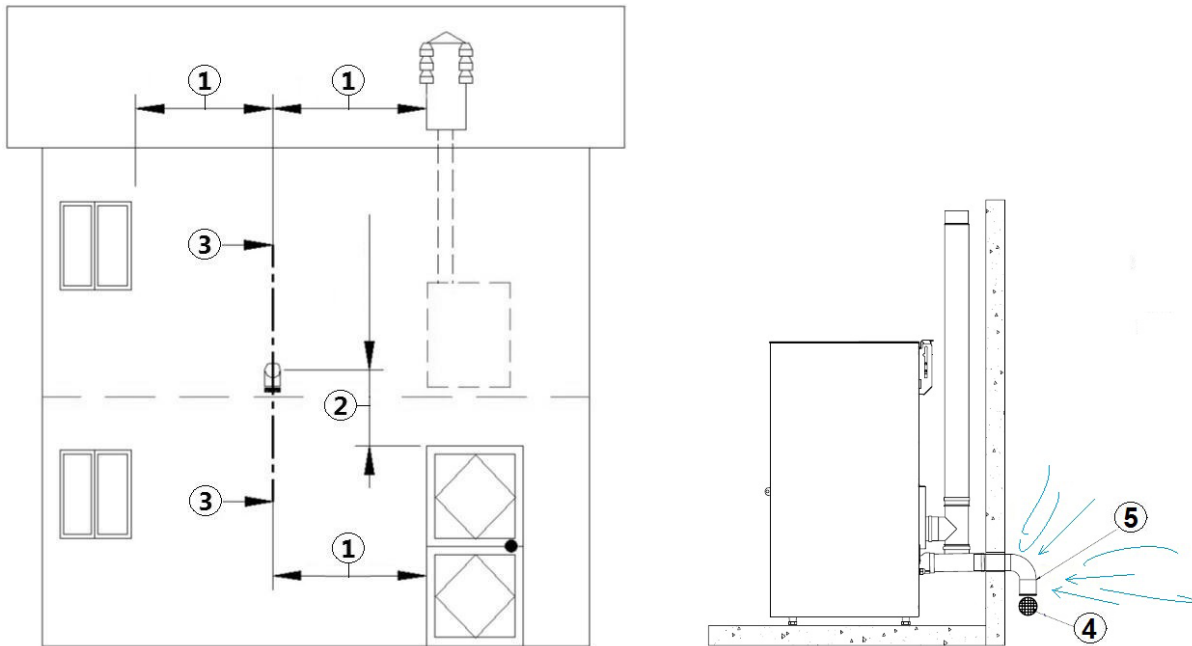

Fig. 7 - Air intake for installation
LEGEND	Fig. 7 page 10
- During installation you must verify the minimum distances for the combustion air intake (see **Fig. 7 page 10**).
- On the outside wall it is necessary to install a 90° bend to protect the flow of combustion air by wind effects: turn the beginning of the curve downward (see **Fig. 7 page 10**).